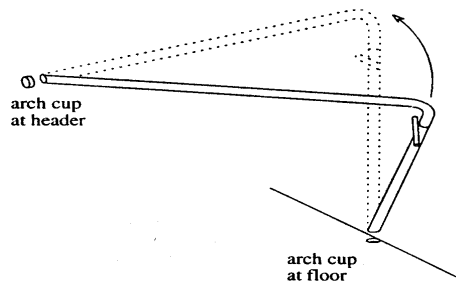

Figure 7. Arch Frame Inserted into Arch Cups.
6. Starting with the center interior arch location, with other personnel supporting the fabric, rotate the arch frame assembly to insert the upper end of the arch into the arch cup at the header, as shown in Figure 7.
**CONTAINERIZED KITCHEN (CK)
5. Starting with the center interior arch location, with other personnel supporting the fabric, rotate the arch frame assembly to insert the upper end of the arch into the arch cup at the header, as shown in Figure 7.